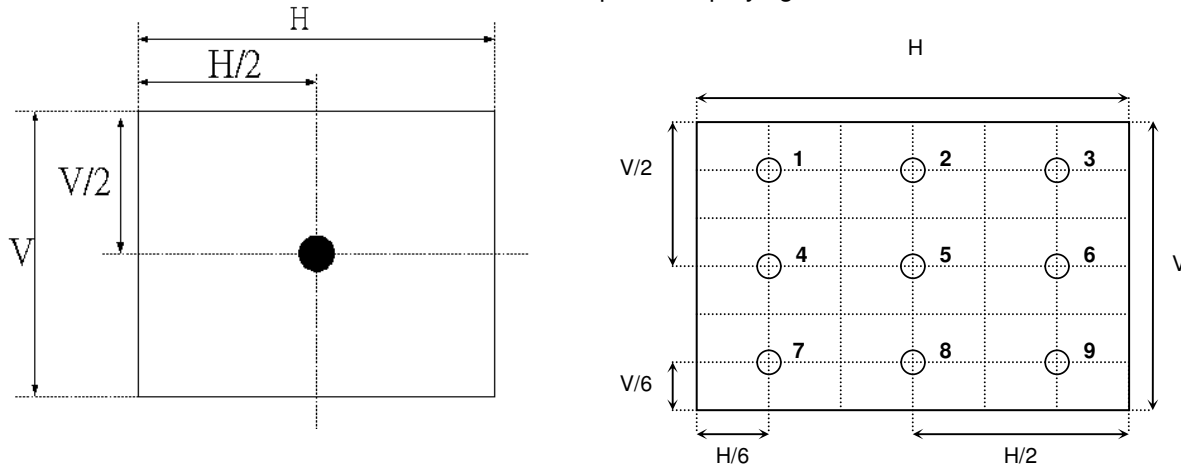

Fig.4-2 Optical measurement point
2. Surface luminance is luminance value at point 1 across the LCD surface 50cm from the surface with all pixels displaying white. From more information see FIG 4-2. When $I_{\text{BL}} = 32 \text{ mA}$, $L_{\text{WH}} = 350 \text{ cd/m}^2$ (typ.) $L_{\text{WH}} = L_{\text{on1}}$, Where L_{on1} is the luminance with all pixels displaying white at center 1 location.